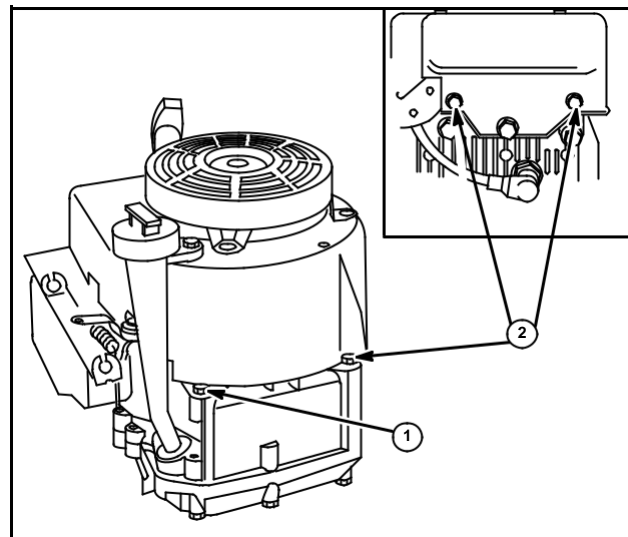

Fig. 47
2. Hold blower housing with extruded hole in recess of cylinder block, Fig. 47.